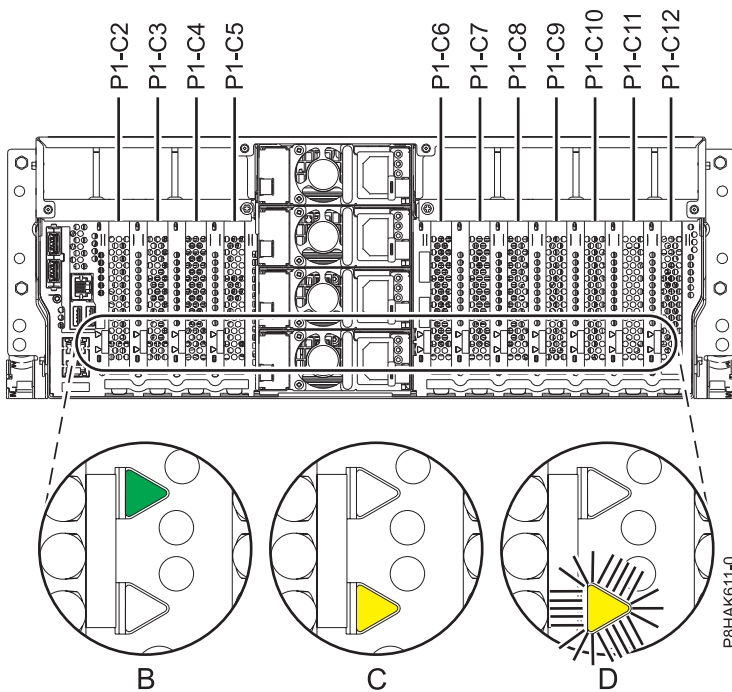
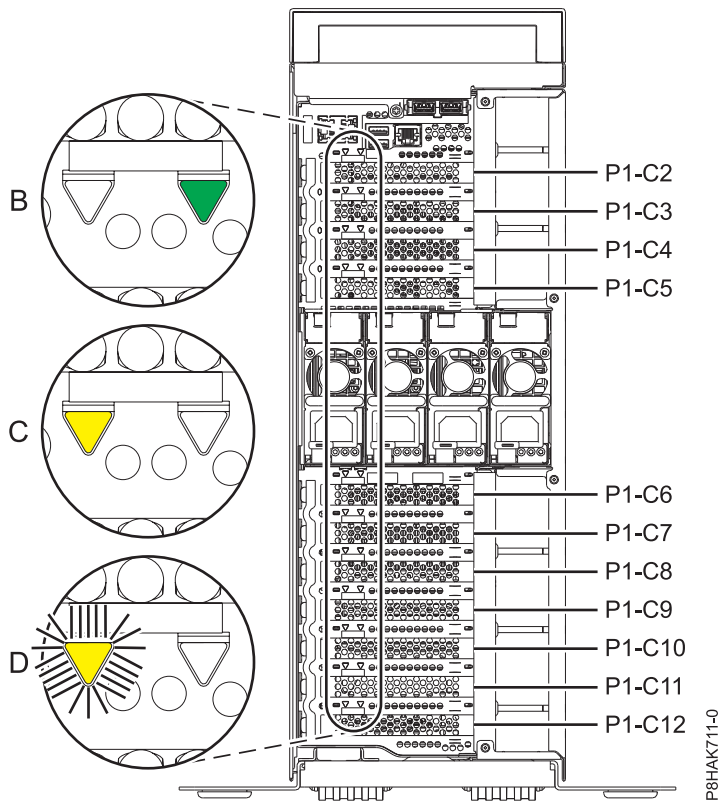

Figure 31. PCIe adapter slot locations and locations of the LEDs in a rack-mounted system
Figure 32. PCIe adapter slot locations and locations of the LEDs in a stand-alone 8286-41A system
If you are servicing a failed PCIe adapter, look for the flashing amber LED for the failed PCIe adapter that you set to flash in the step to identify the failed part. See Figure 31 and Figure 32 on page 35 that show the state of the LEDs. Note that the amber LED for the failed PCIe adapter is **Flashing**, as shown in (D) in Figure 31 and Figure 32 on page 35.
**Attention:** If the PCIe adapter is operating correctly then the Activity LED is **ON** (green) and the Error amber LED is **OFF**, as shown in (B) in Figure 31 and Figure 32 on page 35. Do not attempt to remove the working PCIe adapter.